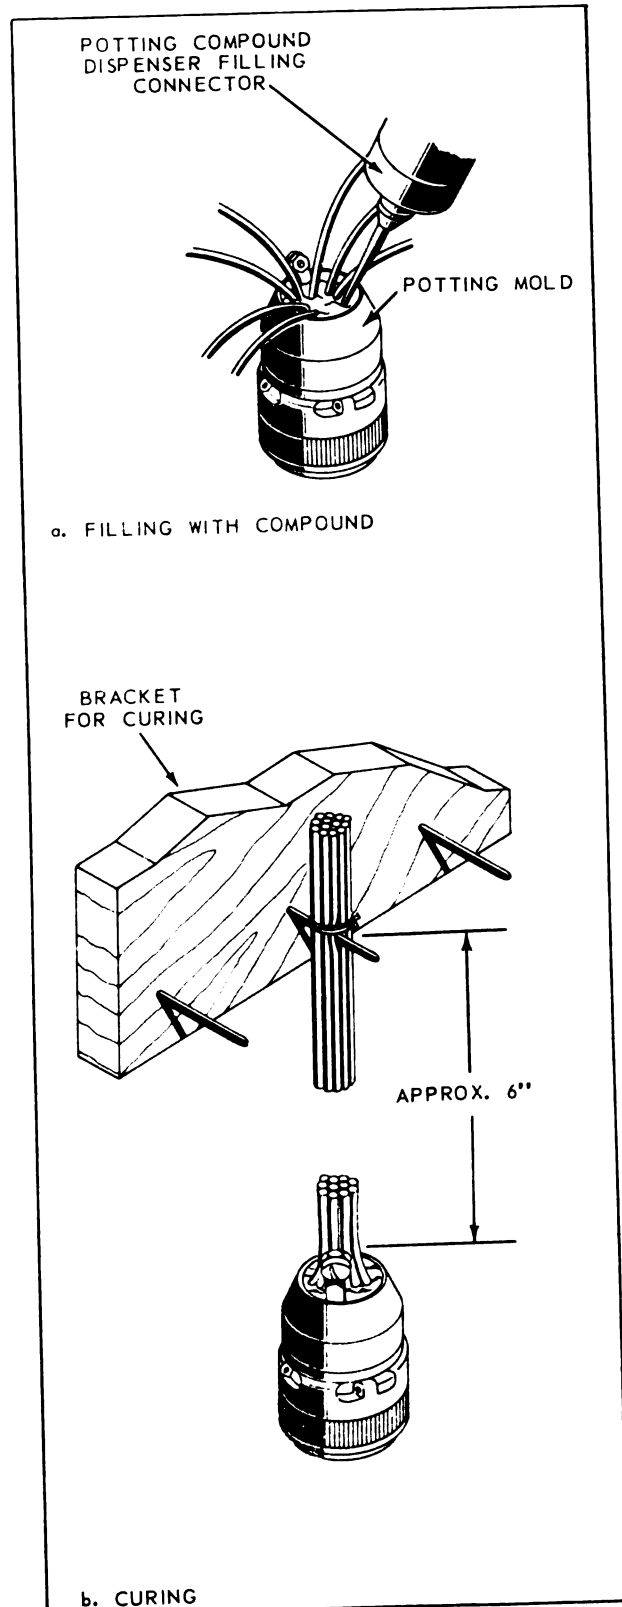

Figure 3-54. Filling and Curing Potting Connector
i. Immediately after filling each connector, tie the wires together loosely about 6 inches back from connector. Make sure that wires are centrally located in the connector so that each wire is completely surrounded by potting compound. Suspend the assembly by placing the tie over a nail as shown in figure 3-54 and allow to air cure for at least 1-1/2 hours at 75°F without any movement.